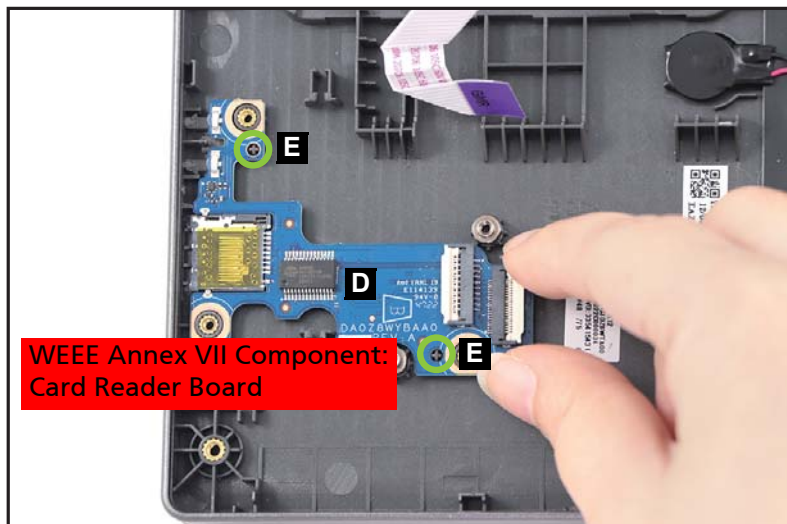

Figure 1-34. Card Reader Board Removal
5. Release the card reader board (D) from the card reader slot and guide pins (E) (Figure 1-34). Then remove the card reader board.